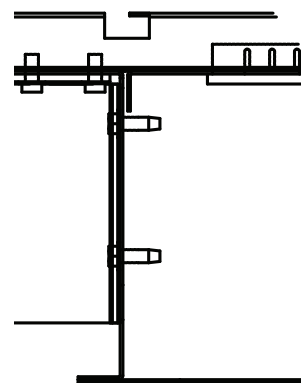

Figure 9-1
- A. Angle Canopy Support Assembly as shown in Fig. 9-1.